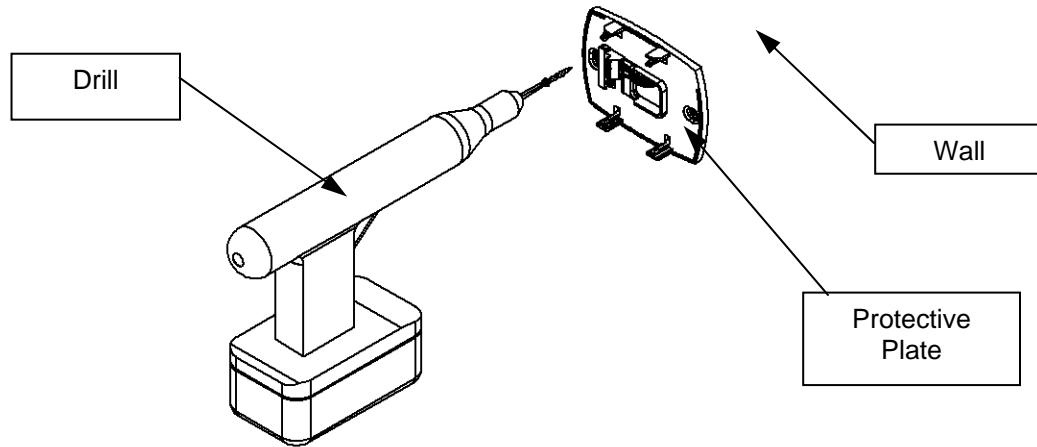

Figure 84
Step 3: Mount the Setback Control Protective Plate in a desired location. Be sure that the Setback Control will not be direct sunlight, as the display may be difficult to read. This is shown in Figure 84.